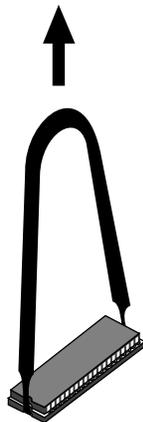

Figure 2-13 Removing the PROM Chip
- You received a chip removal tool—it looks like a pair of huge tweezers. Insert the chip removal tool between the PROM chip and the socket on the board, as shown in Figure 2-13. Work the chip away from the socket in a rocking motion, pulling up on one side of the chip and then on the other side. It may be difficult to loosen it.